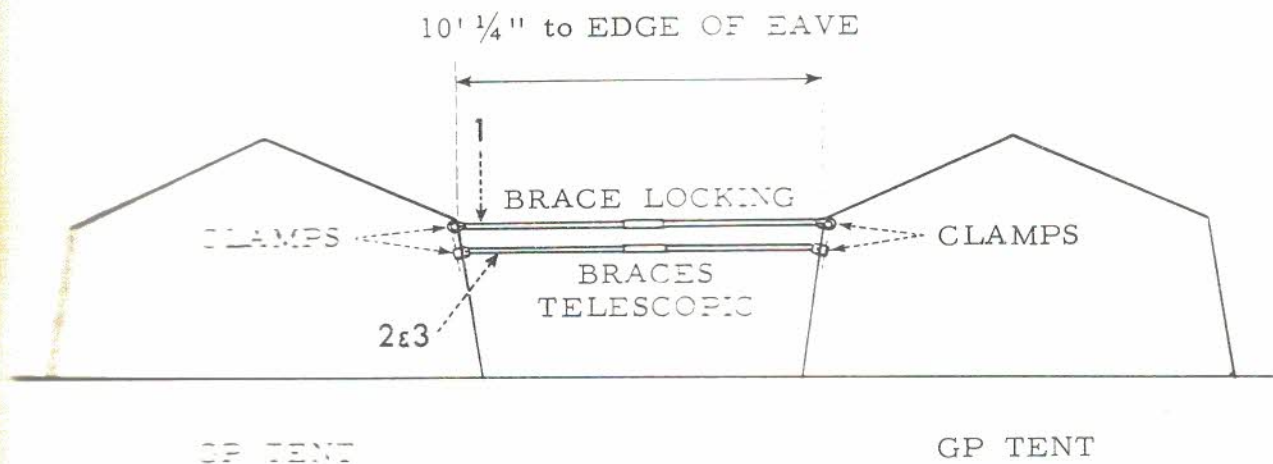

FIG 32 - ATTACHING OF BRACES TO GP TENTS
braces are shown in Fig 32.
67. Join together the male and female tubular locking braces to form a complete locking brace, and attach the brace to the eave line of each GP tent (see Arrow 1, Figs 32 and 33). ENSURE THAT THE BOLT HEADS IN THE CLAMPS FACE THE CANVAS.
68. Assemble the two halves of each telescopic brace and attach the brace as shown in Figs 32, 33 to the GP tents (see Arrows 2 and 3). The point of attachment is just below the angle type support sockets of the eave line. ENSURE THAT THE BOLT HEADS FACE THE CANVAS.